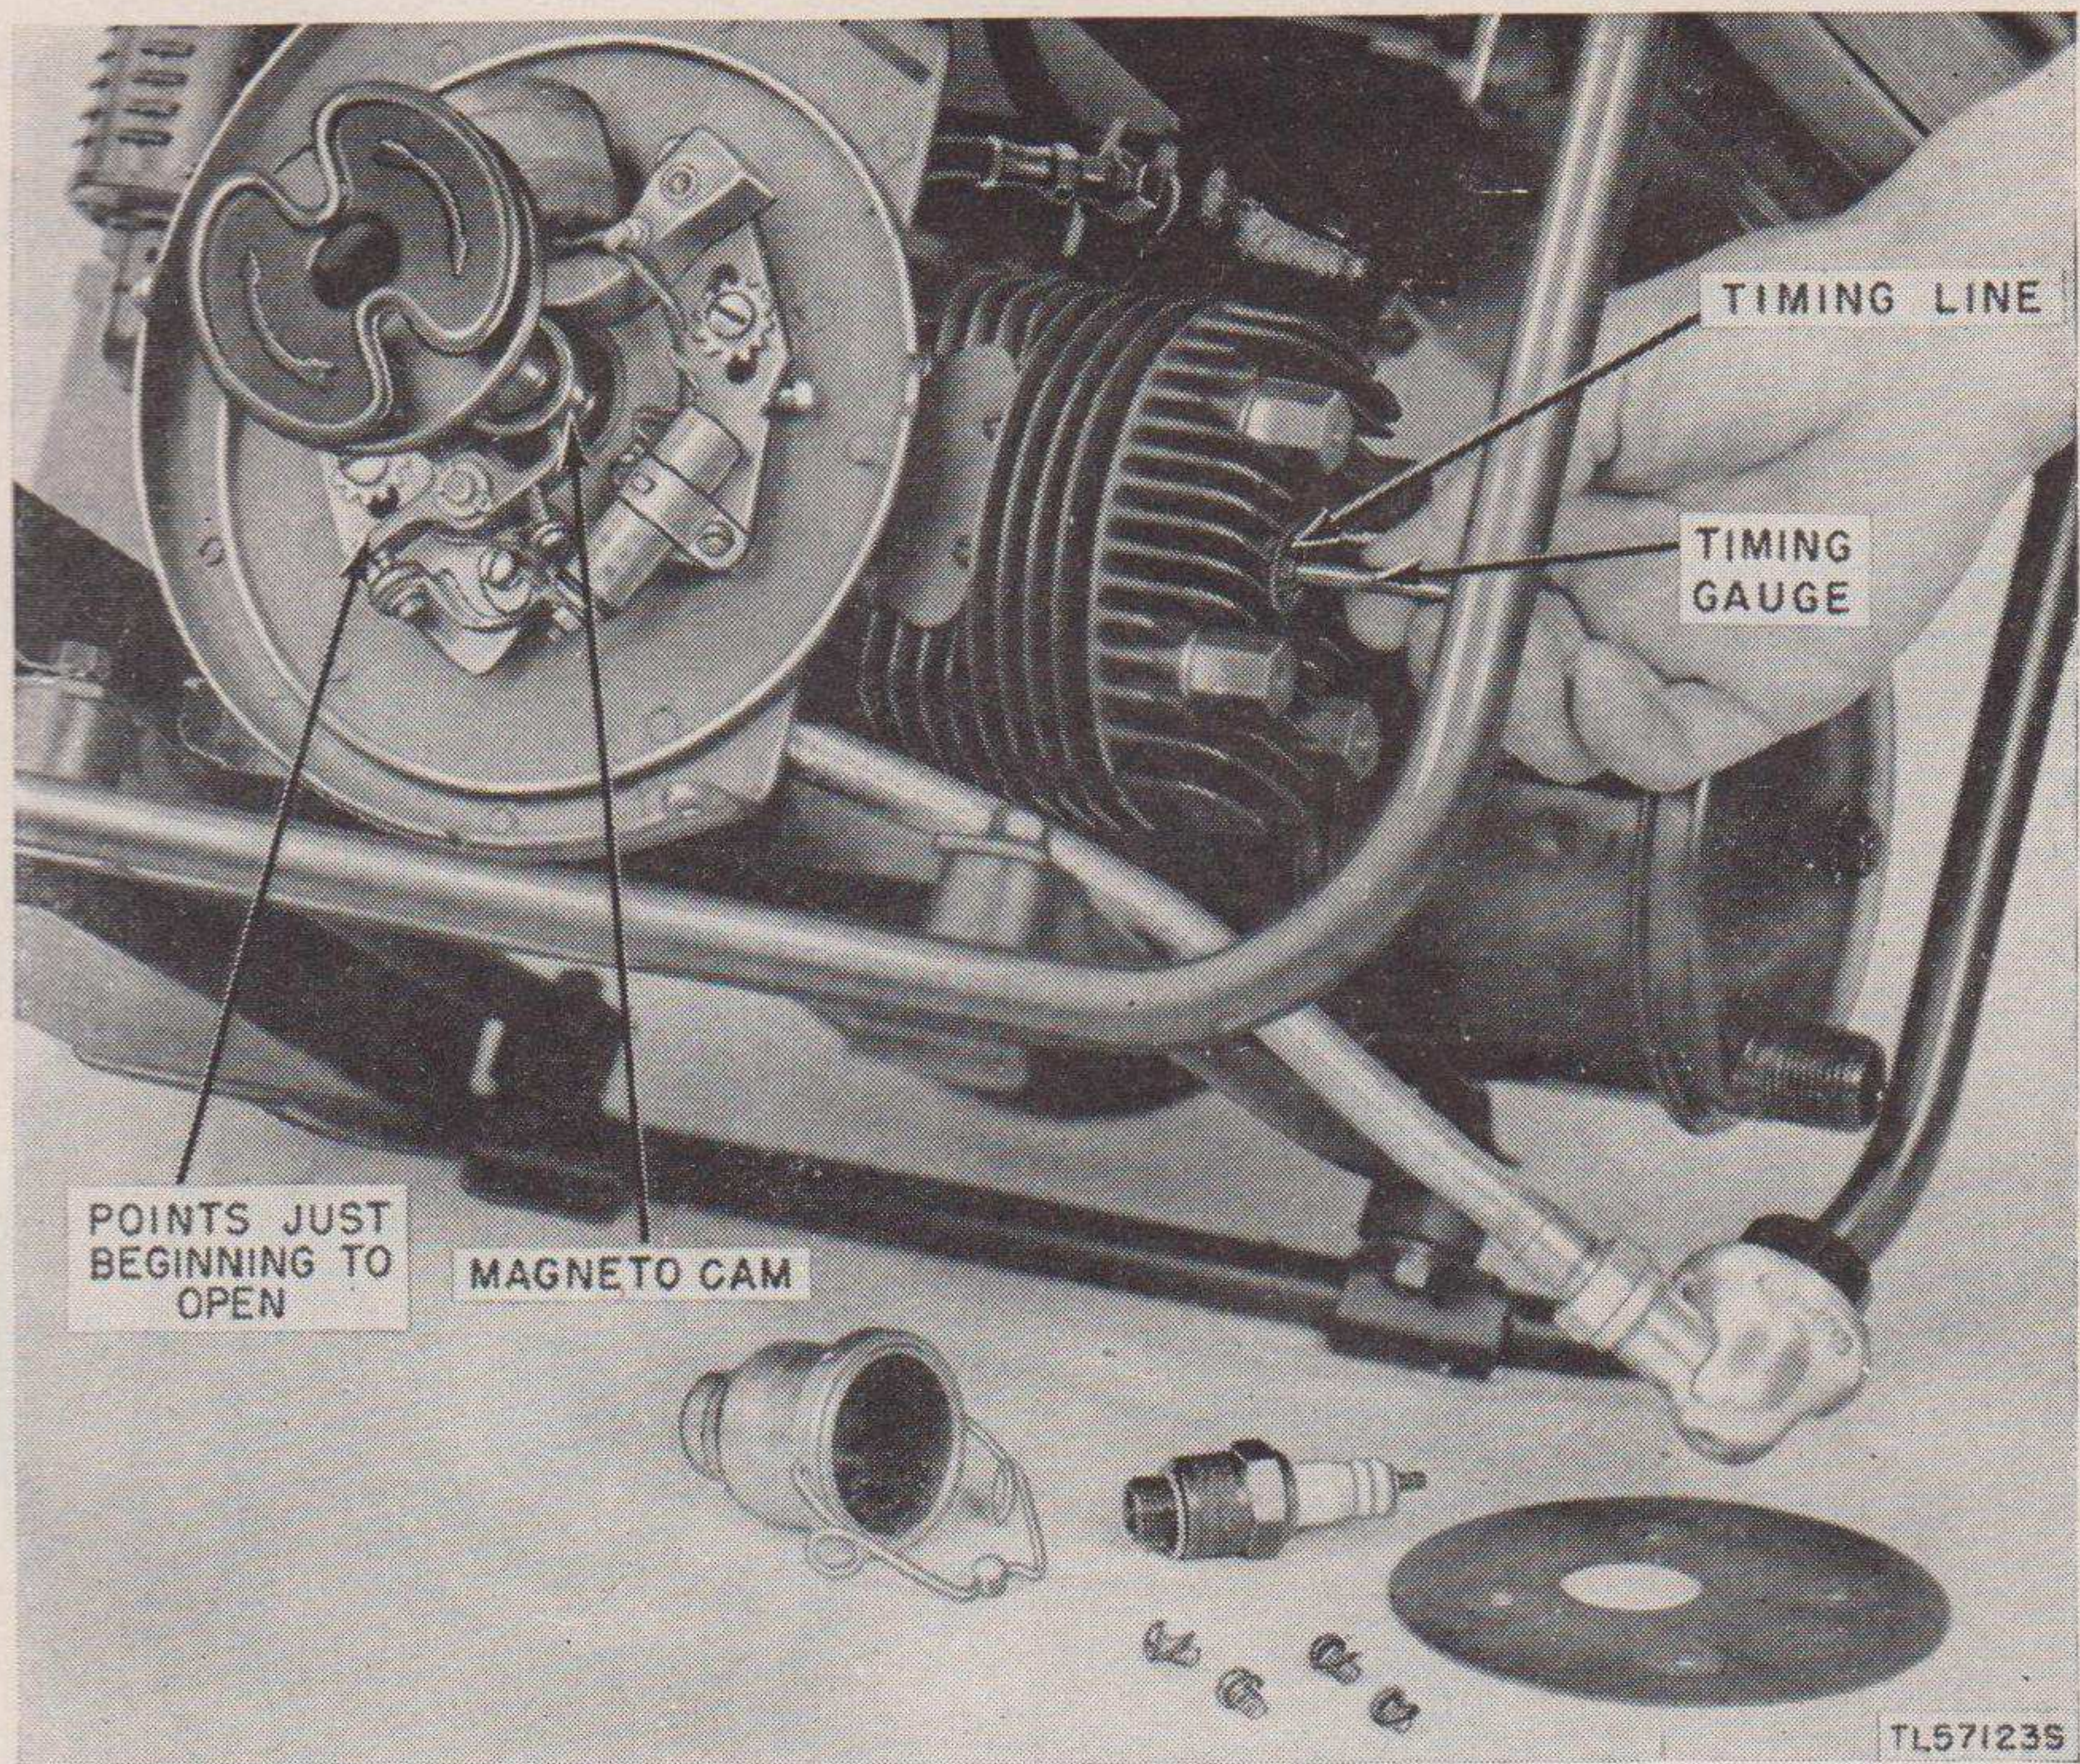

Figure 33. Timing the magneto.
- (3) Install a new breaker plate assembly, attaching the leaf spring and primary-lead wire to capacitor. Before installing the new breaker arm, form a horizontal loop in the breaker arm wire and position it between the head of the ground screw and breaker-arm mounting stud (fig. 33). When forming this loop, that part of the lead that protrudes from the lower end of the hole in the arm should be bent sharply to the right to prevent up-and-down movement. Follow these instructions carefully to avoid breakage of the lead.
- (4) Before installing the breaker arm, lubricate the breaker arm pivot as described in paragraph 38b(2).
- (5) After the breaker arm is in place, insert the flat washer, then the spring clip. Tighten the assembly with the screw.
- (6) Adjust the breaker point gap (b above).
- (7) Install the flywheel, magneto, flywheel housing, spark plug, and spark plug shield (par. 64).
- (4) Inspect the oil seal in the magneto back plate. If this seal is damaged or worn, press the seal out and replace.
- (5) Install the back plate (with ignition cable and shielding attached) on the engine crankcase with the two screws and lockwashers. Use a new gasket if the old gasket is defective. Reinstall the magneto cam brush.
- (6) Install the magneto assembly on the back plate with the two screws and lockwashers. Connect the ignition cable to the lead wire on the coil. Time the magneto in accordance with instructions in *e* below.
- (7) Install the flywheel, magneto-flywheel housing, spark plug, and spark plug shield.
e. MAGNETO TIMING (fig. 33). When installing a new magneto or replacing the breaker points, time the engine as follows:
- (1) Check the breaker-contact-point opening (*b* above).
- (2) Remove the spark-plug shield cap, spark plug, and spark-plug shield body and cylinder head baffle.
- (3) Turn the engine crankshaft in the direction of rotation until the piston reaches top dead center.
- (4) Insert the timing gauge furnished with the equipment (fig. 33) in the spark plug hole and cylinder head until it touches the top of the piston. If necessary, turn the engine slightly until the lower edge of recess on the gauge is flush with the top of the spark plug hole. Withdraw gauge.
- (5) Turn the engine against direction of rotation about  $\frac{1}{4}$  turn. Insert the gauge again through the spark plug hole until it touches the top of piston. Then turn the engine in direction of rotation until the *top edge* of recess in gauge is flush with top of the spark plug hole.
- (6) Loosen the stator plate screws and move the stator plate until the breaker points begin to break. Tighten the plate screws.
- (7) Recheck to determine if the *top edge* of the recess in the gauge is flush with the top of the spark plug hole when the magneto points begin to break. If setting is exactly as described, the timing is then set so a spark occurs when the piston is  $\frac{1}{8}$  inch from the top dead center.